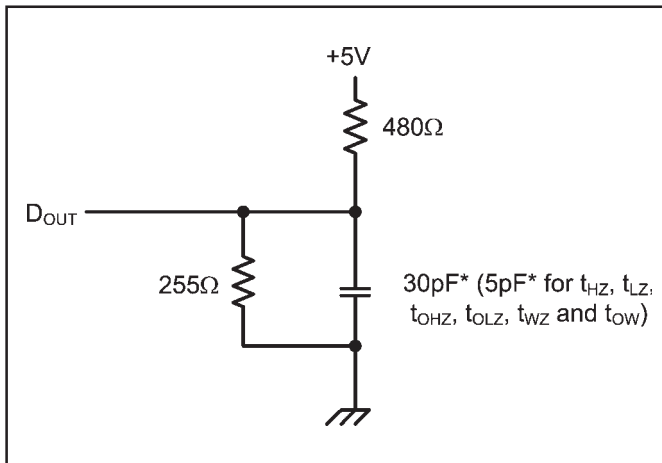

Figure 1. Output Load
9. Transition is measured ± 200 mV from steady state voltage prior to change, with loading as specified in Figure 1.
Output Load	See Figures 1 and 2